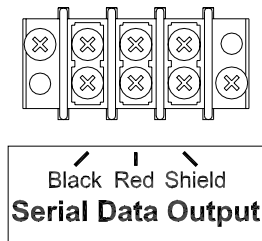

Figure 14 Serial Data Output Wiring Diagram
3. Connect the cable to the terminal block labeled **Serial Data Output** on the junction chassis according to figure 14.